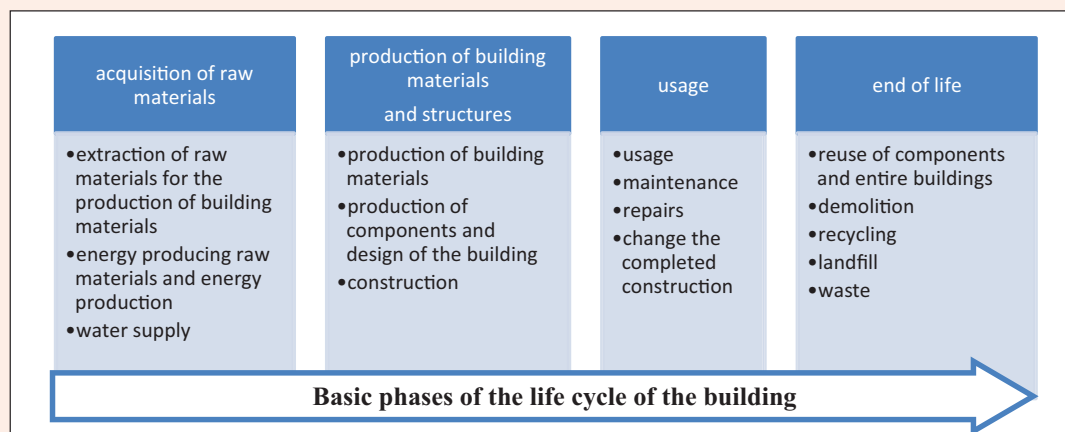

Fig. 1: Basic phases of the life cycle of building structure
The program will be anchored upskilling question of the application of new forms of solving the problem of maintenance of buildings as a means to increase their benefits in terms of use, durability, terms of renewal and controlled end of their lifespan. These activities are currently included under the concept of building life cycle (LC) (Fig. 1). All of our solutions are now used to calculate the entire life cycle cost. Its main feature is the durability of the proposed building.
At the moment it is perceived that the greatest value of BIM for FM is in delivering handover information for operations and using a 3D "As-built" as a reference model for future renovations (Figure 1). However, the amount of structured information generated during design and construction provides great